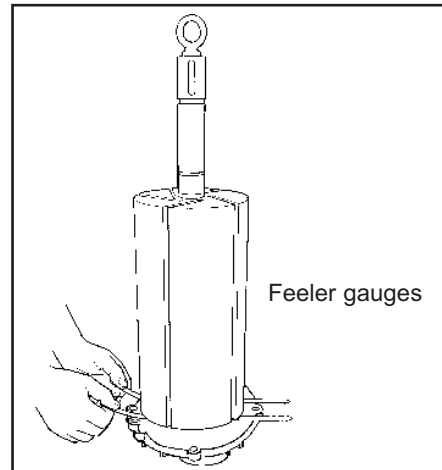

Figure 24
- With a feeler gauge on each side of the rotor shaft, as shown on Figure 24, check the clearance.